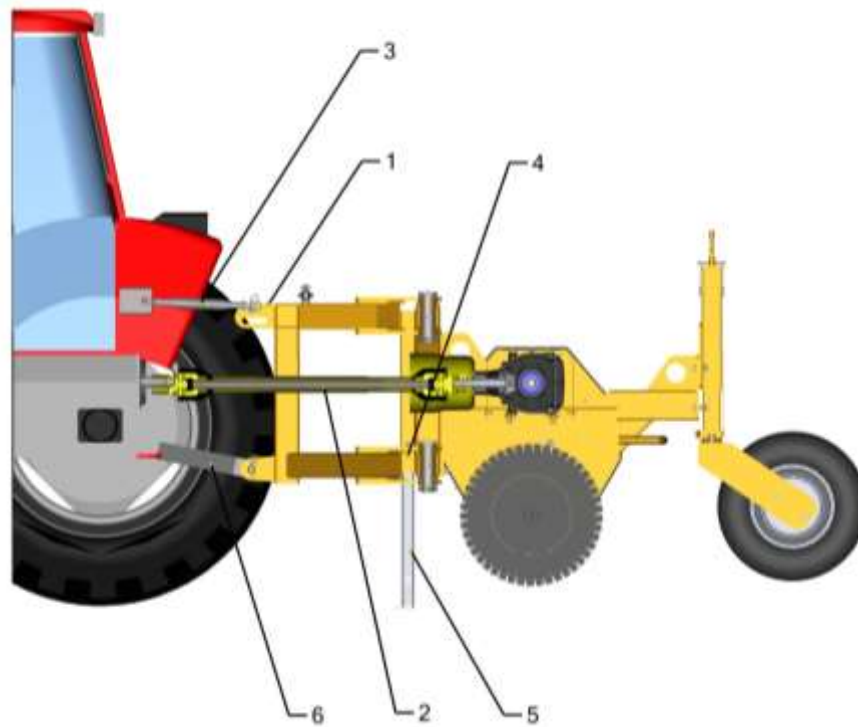

Figure 5
1. Remove **the 3-point pins (1)** from the machine (**see Figure 5**).
The machine should be detached in the following manner (see **Figure 5**):